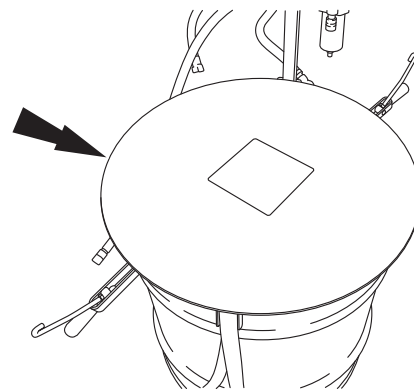

Figure 23
3. Remove the backing from the sealing membrane, and adhere the membrane to the top of the ash bag. See Figure 23.